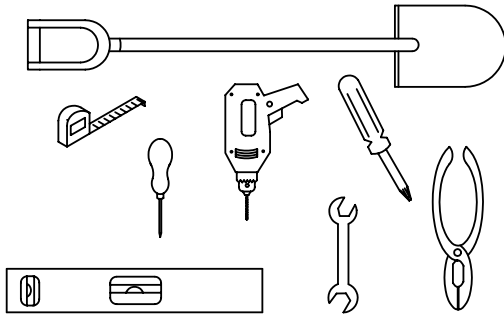

FIG. 1
1. **WEATHER WARNING ! DO NOT ERECT YOUR BUILDING ON A WINDY DAY. ANY BUILDING LEFT PARTIALLY CONSTRUCTED MAY BE SERIOUSLY DAMAGED (FIG.1).**
3. **ALL ASSEMBLY OPERATIONS MUST TAKE PLACE ON A COMPLETELY LEVEL SURFACE (FIG. 1)**
(FIG. 1).
3. **TOUTES LES OPÉRATIONS DE MONTAGE DOIVENT ÊTRE RÉALISÉES SUR UNE SURFACE PLANE (fig 1).**